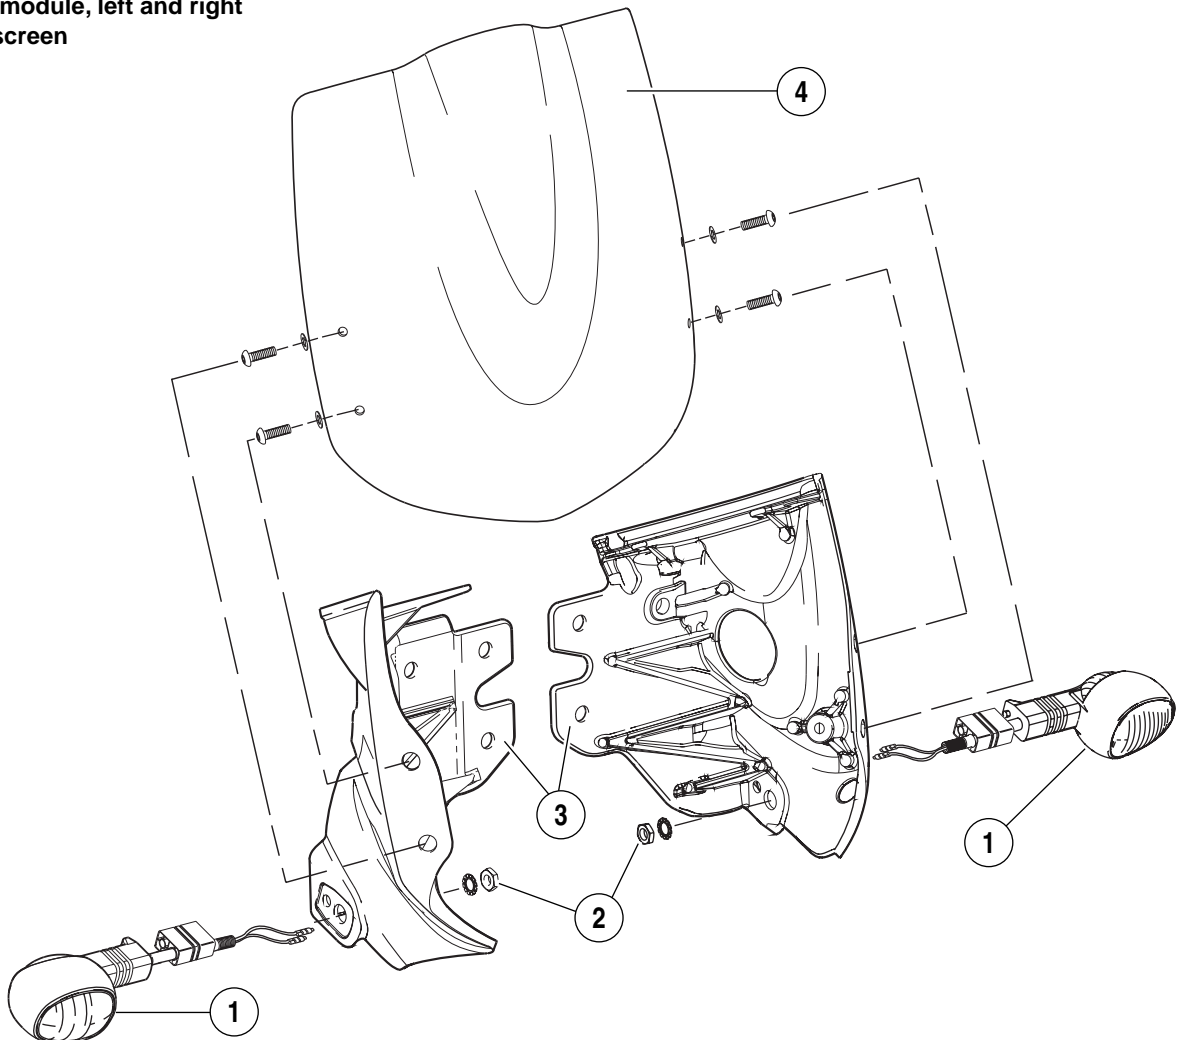

Figure 7-58. Front Turn Signals
3. See Figure 7-58. Remove jam nut and lockwasher (2) from inside of front module (3).
4. Pull bullet connectors and wiring through hole in front module (3) and remove turn signal (1).
1. See Figure 7-58. Insert bullet connectors and wiring through hole in front module.